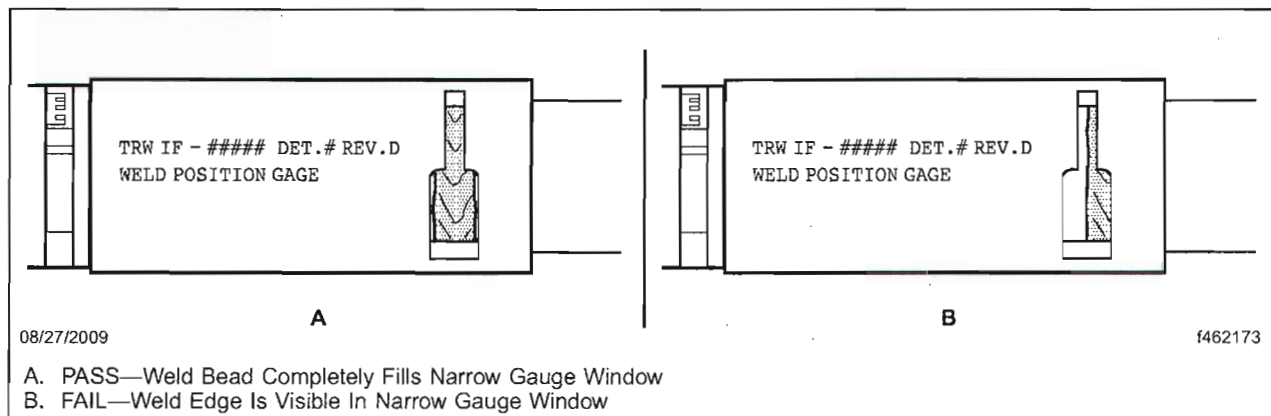

Fig. 3, Gauge Measurement
7. Visually inspect the full circumference of the weld seam in the narrow gauge window. See Fig. 3. Check for the following: